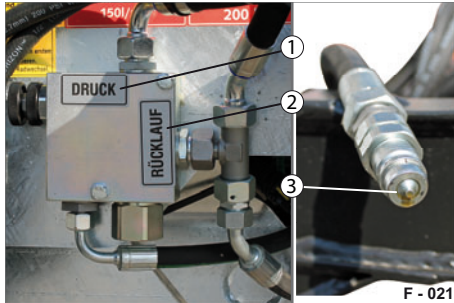

Fig. 28 Connecting hydraulic lines
- ▶ Make sure that hydraulic line connections are clean (Fig. 28/3).
- ▶ Plug the two connections (Fig. 28/1 & Fig. 28/2) into the connection sockets of the towing vehicle - observe the labelling of the connections.